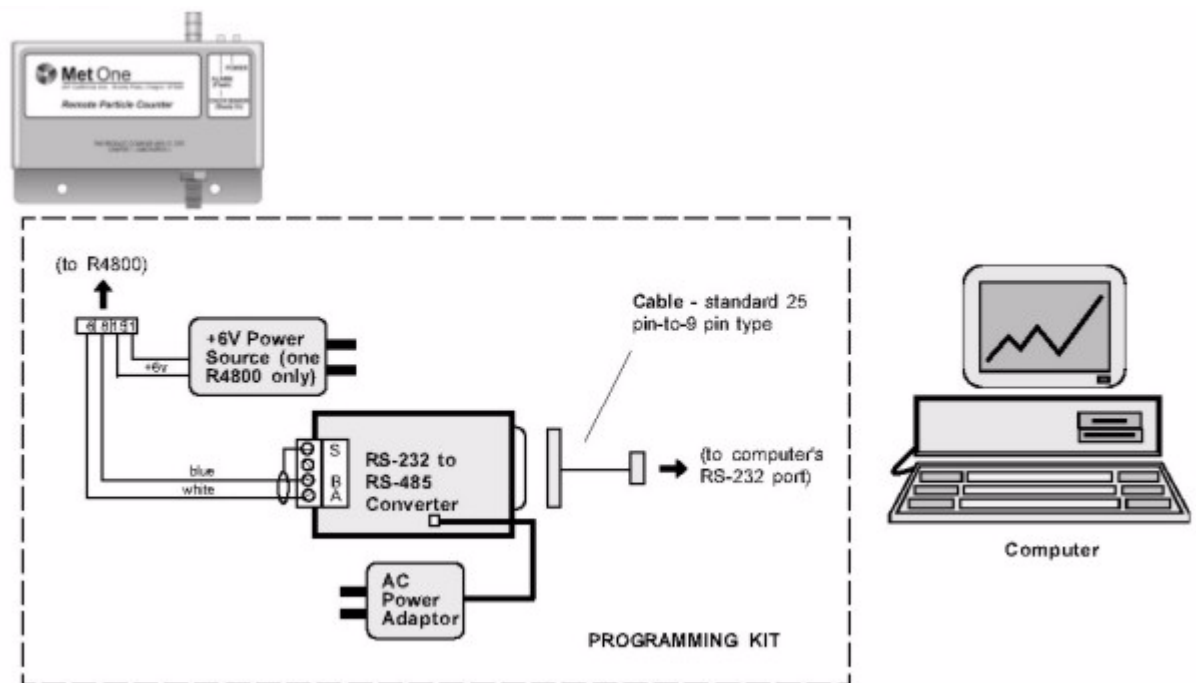
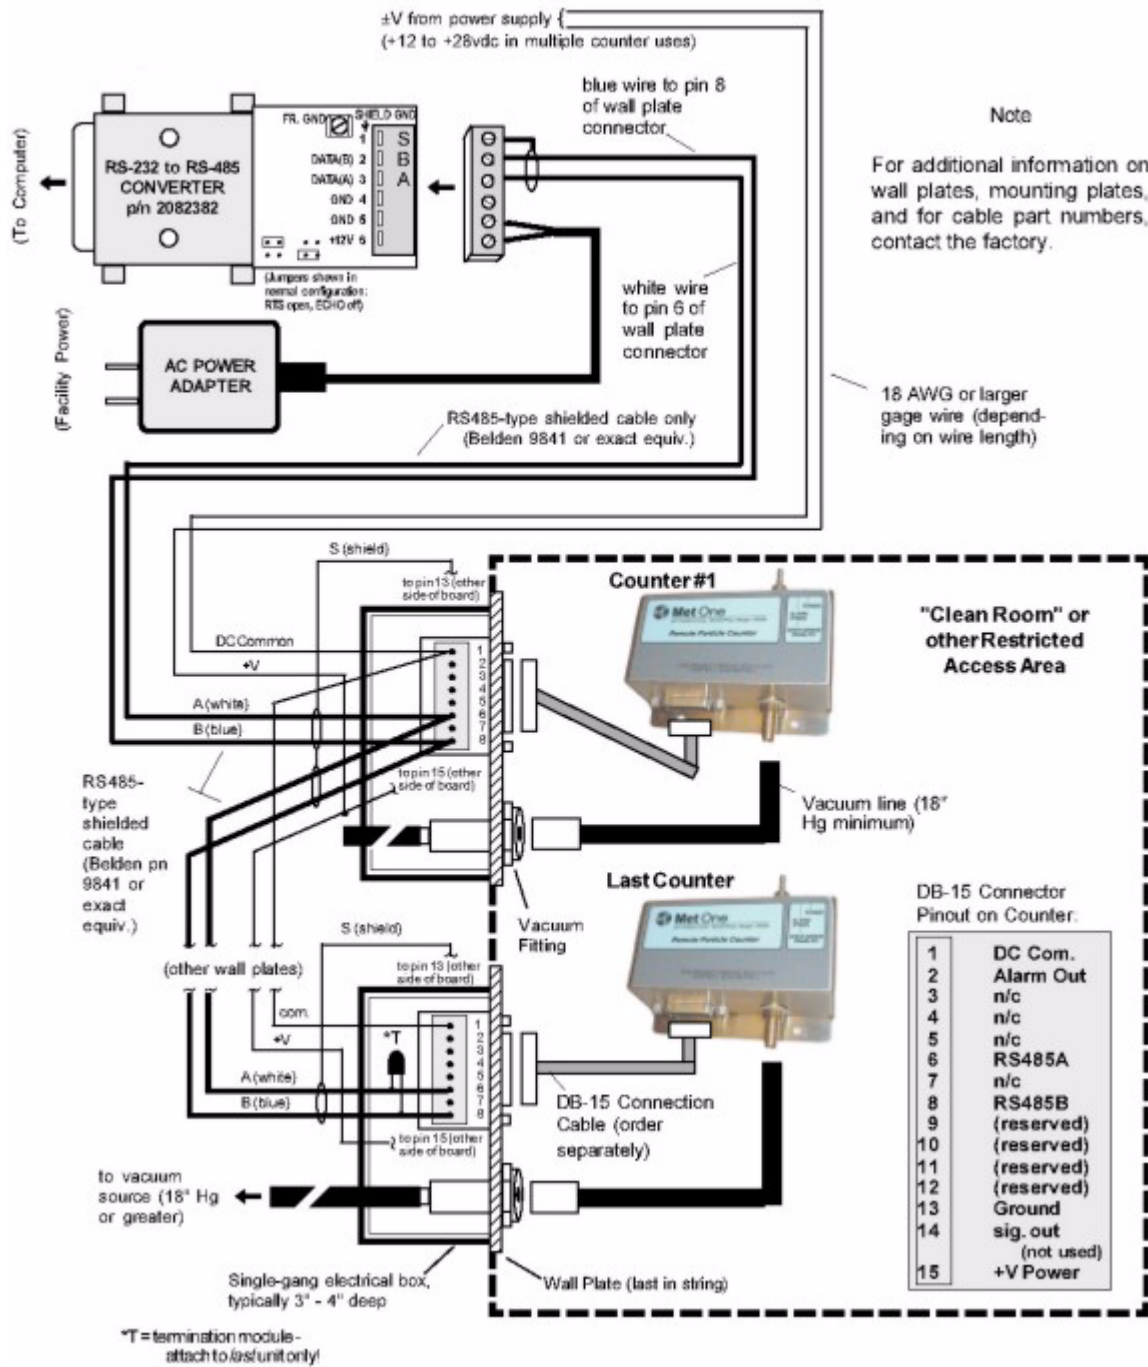

Fig 2-2 : Setting Programming Parameters Using Programming Kit
Fig 2-4 : Typical RS-485 Network Installation Diagram Using Wall Plates
- 1) Connect the programming kit, computer, and a remote counter as shown in Figure 2-2 or connect a remote sensor to a computer through an RS-232 to RS-485 converter as shown in Figure 2-4. For proper program setup, only one counter can be connected at a time.
Prepare for multiple remote counter operation by performing the following steps and by using Figure 2-4:
- 3) Connect shielded, twisted-pair cable to male plug of the RS-232/RS-485 converter as shown in Figure 2-4.
- 5) Connect shielded twisted-pair cable from unenergized power source to each wall plate as shown in Figure 2-4. Attach braid to male plug as in step 3.